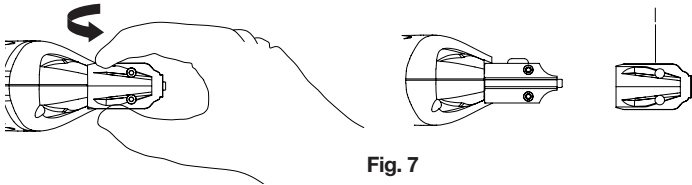
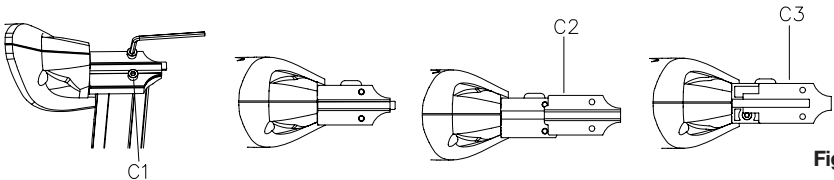

Fig. 7
Fig. 8
6. UNBLOCKING JAMMED FASTENERS (SEE FIG. 7 & 8)
- In the unlikely event that nails become jammed, follow these instructions to remove them. Use the hex key provided with the tool to unscrew the two screws on the tacker head. (See Fig.7 and Fig. 8).
- Remove the nose tip I. (See Fig.7)
- Remove the plate retaining bolts C1. (See Fig.8)
- Then remove the safety mechanism retaining plate C2. (See Fig.8)
- Remove the firing pin retaining plate C3. (See Fig.8)